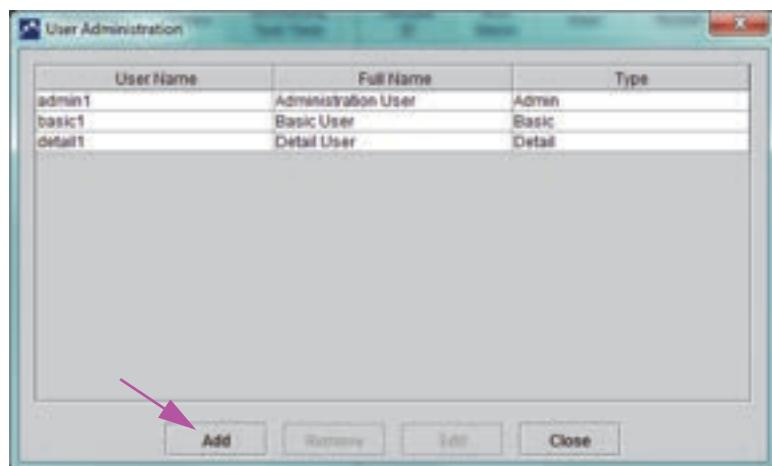
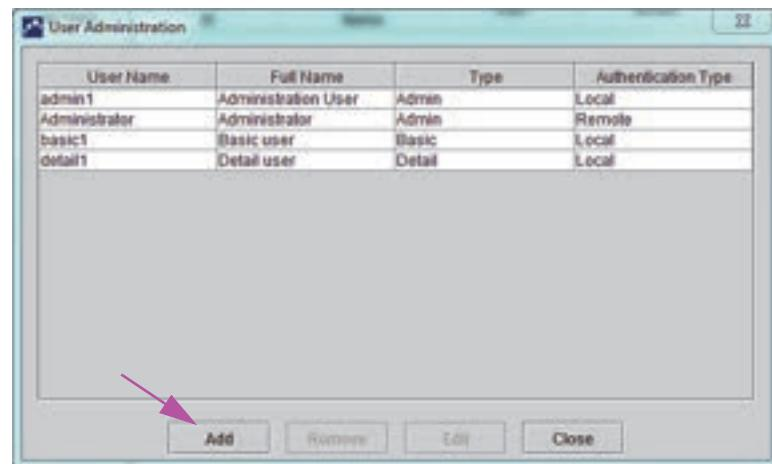

Figure 2-70. User Administration Dialog Box
Figure 2-71. User Dialog Box for Remote user
2. In the GeneXpert Dx System window (see Figure 2-56), on the **Setup** menu, click **User Administration**. The User Administration dialog box appears. See Figure 2-70 if adding a local user or see Figure 2-71 if adding a remote LDAP user.
1. In the GeneXpert Dx System window (see Figure 2-56), on the Setup menu, click **User Administration**. The User Administration dialog box appears. See Figure 2-70.